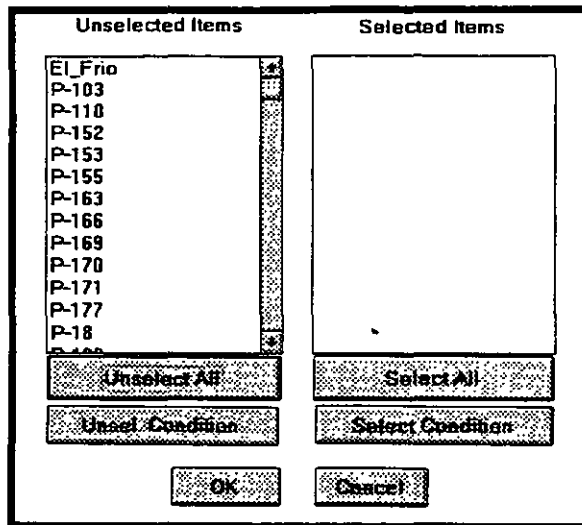

Figure 5-10
When you click on **Select Working Set** a box similar to the one shown in Figure 5-10 will appear. The difference will be in that all wells would be shown as "selected items". If, for example, you wish to reduce the set to only wells belonging to the irrigation system, which are identified with the name SRRG-xx, where xx is the sequential number of a well, you should do the following.
1. Click on **Unselect All**. The 'Selected Items' window will be without any well. All wells are moved to the left window, and the display looks as shown in Figure 5-10.